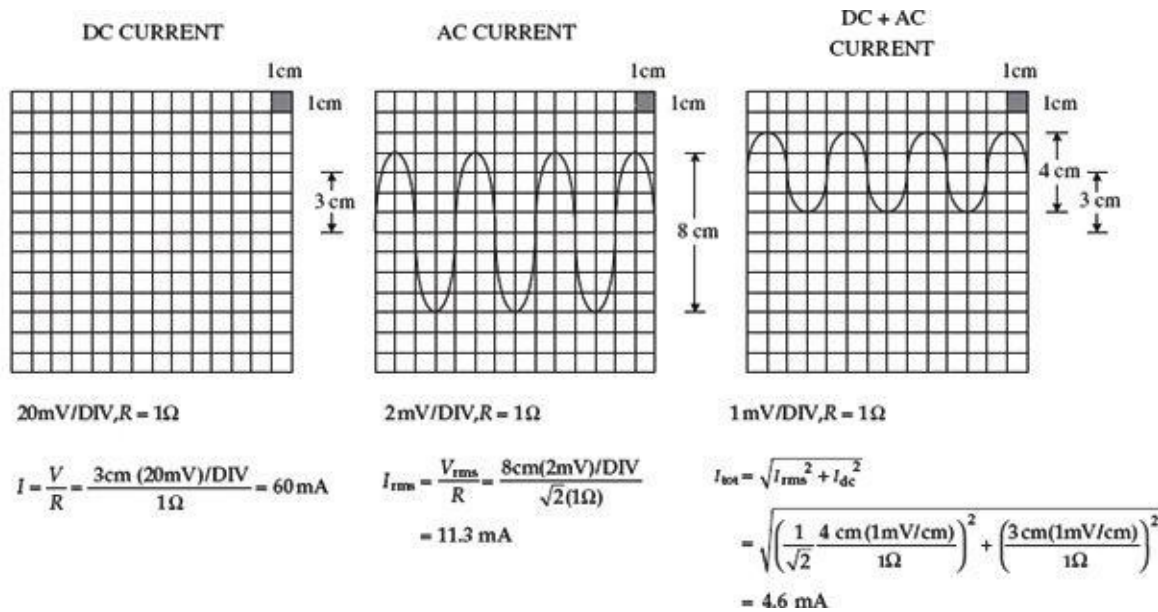

FIGURE 7.41
4. Measure the voltage drop across the resistor using the scope. The unknown current will equal the magnitude of the voltage measured, provided that you stick with the 1-W resistor. Figure 7.41